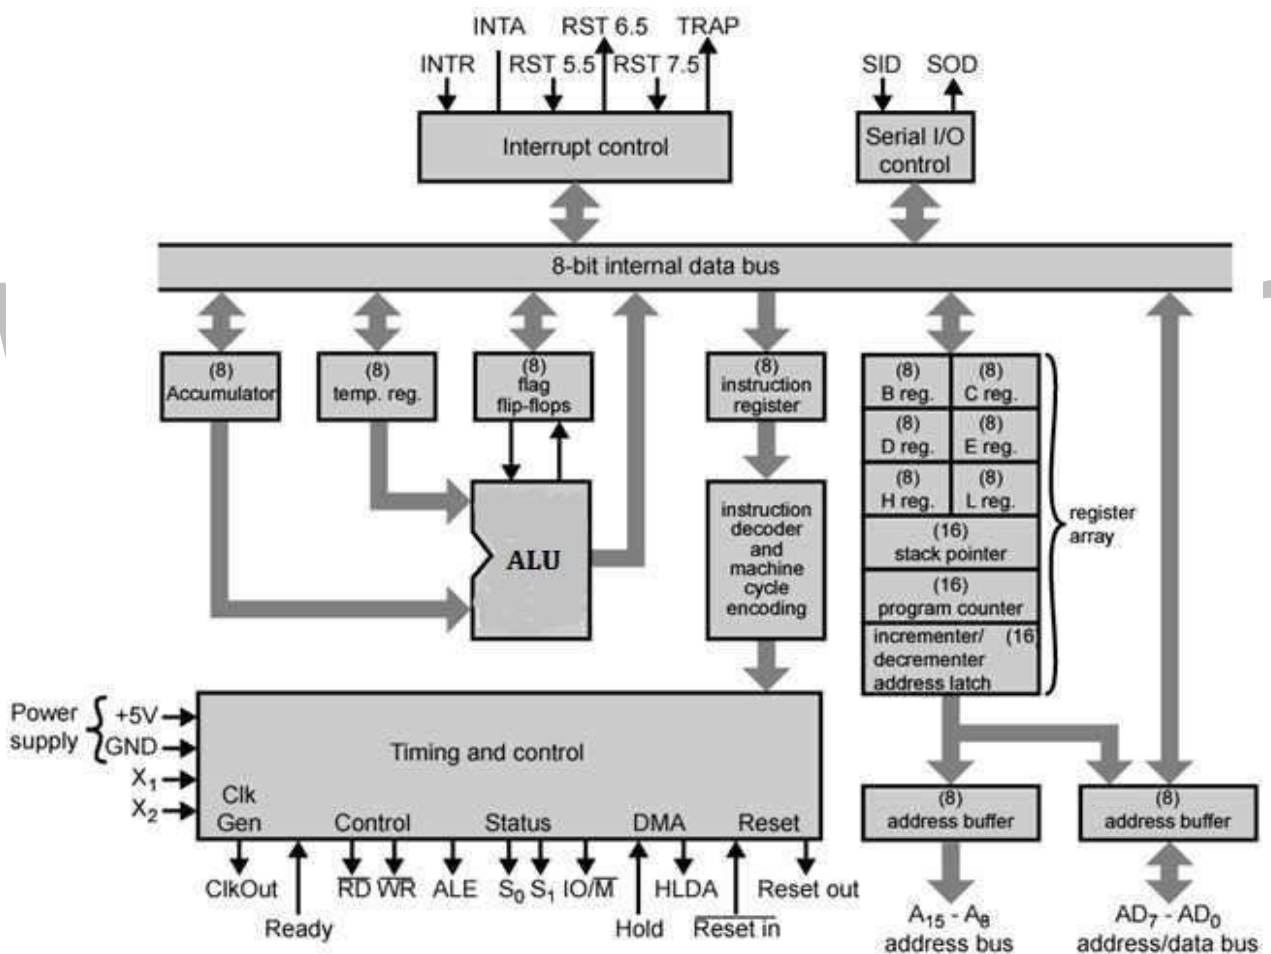

Figure 1.2.1 Architecture 8085 processor
Figure 1.2.1 shows the functional block diagram of Intel 8085. It consists of three main sections:
- Fig 1.2.1 shows the various registers of Intel 8085 which are used by the microprocessor for temporary storage and manipulation of data and instructions.